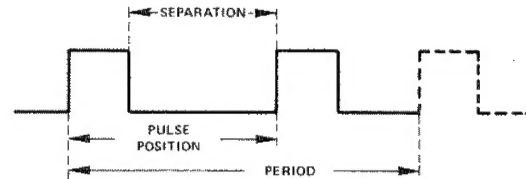

Figure 3-3. Timing parameters in Double Pulse Mode.
- the minimum separation between the first and second pulse (see figure 3-3) is the minimum setting of the selected pulse position range e.g. in 1m—10m pulse position range, minimum separation is 1ms.